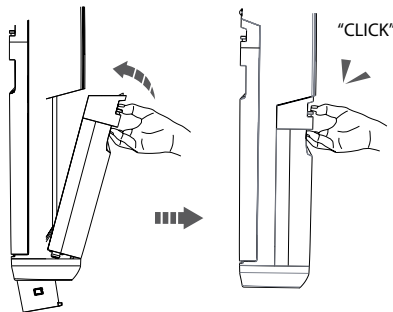

Fig 5
2. To install: Align the bottom of the water tank with the tank slot at the back of the machine. Push it inward gently until it clicks into place (Fig 5).